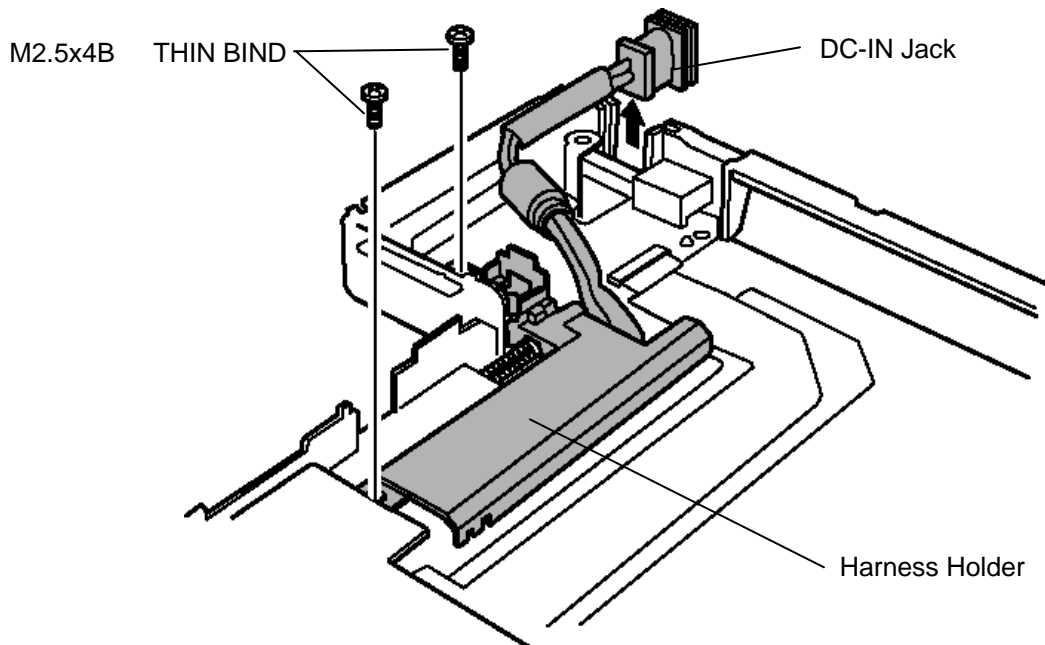

Figure 4-27 Removing Harness Holder
The following describes the procedure for removing the Parallel port board (See Figure 4-27, 4-28).
The following describes the procedure for installing the Parallel port board (See Figure 4-27, 4-28).
The following describes the procedure for removing the serial port board (See Figure 4-27, 4-29).
**NOTE:** The procedure 1 and 2 are the same items as parallel port board. Refer to the figure 4-27 in the parallel port board.
The following describes the procedure for installing the Serial port board (See Figure 4-27, 4-29).
The following describes the procedure for removing the S-Video board (See Figure 4-27, 4-30).
The following describes the procedure for installing the S-Video board (See Figure 4-27, 4-30).